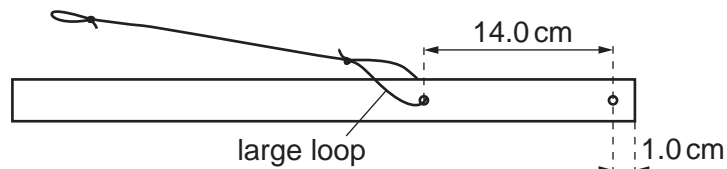

Fig. 1.1
- 1 Drill two 3 mm holes in the half-metre rule, as shown in Fig. 1.1.
- 2 Tie one end of the string through the hole at 15 cm, using a large loop (using 8 cm of the string), as shown in Fig. 1.1. Tie a smaller loop in the other end (for the candidate to attach the mass hanger).